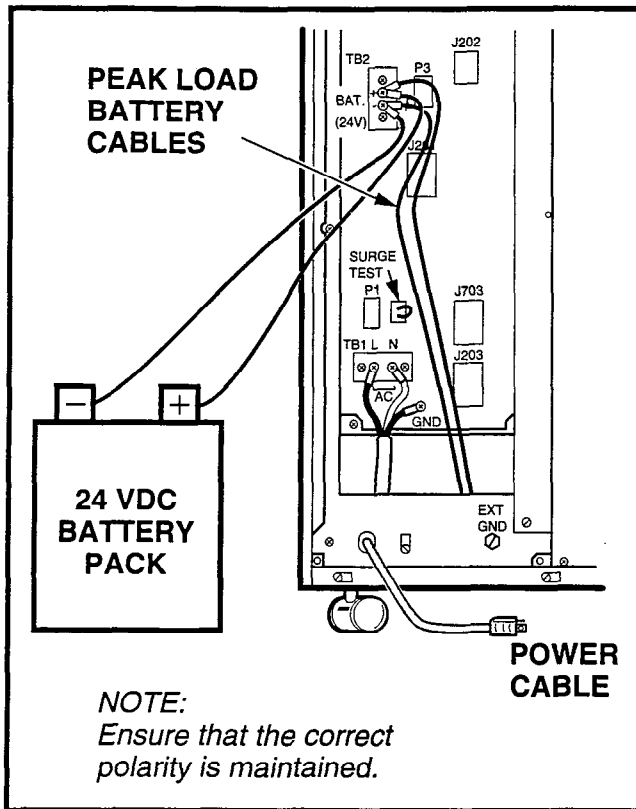

FIGURE 4-68—RESERVE POWER INSTALLATION
9.21 Install Reserve Power as follows (Figure 4-68):
- 3) Connect the battery pack leads (customer-supplied) to **TB2 BAT** on the NPRU-M or LPSA (Figure 4-68). Observe the correct polarity. Leave the leads from the peak load battery connected.